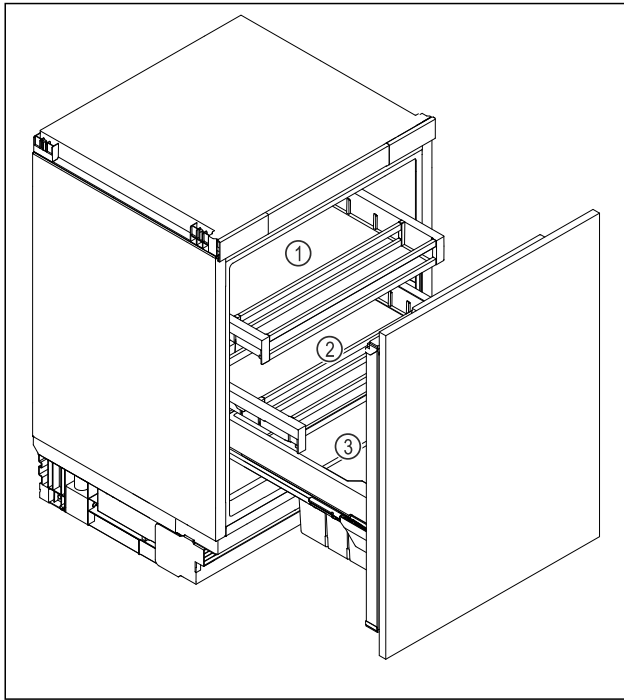

Fig. 6 Example illustration
- ▶ Top drawer Fig. 6 (1): Store butter, cheese, tinned food and tubes.
- ▶ Bottom drawer Fig. 6 (2): Store particularly perishable foods such as ready meals, fish, meat and sausage products.
- ▶ Fruit and vegetable box Fig. 6 (3): Store packaged fruit and vegetables.
- ▶ Drinks compartment Fig. 6 (3): Store individual bottles.